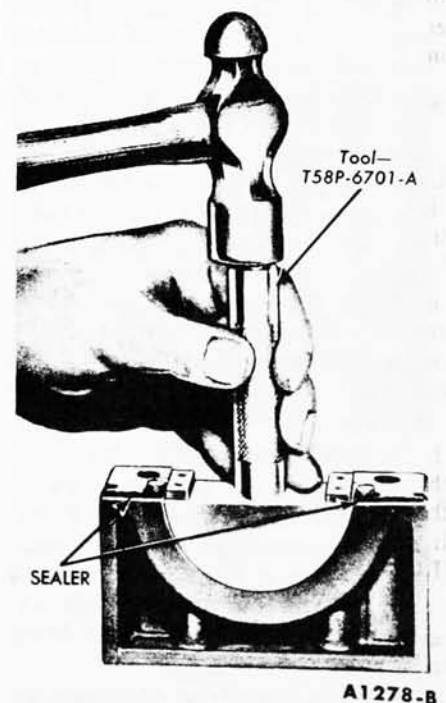

FIG. 65—Seal To Rear Bearing Cap Installation
4. Install a new rear journal oil seal in the rear main bearing cap (Fig. 65). After installation, cut the ends of the seals flush.
5. Apply a thin coating of oil resistant sealer to the rear main bearing cap at the rear of the top mating surface (Fig. 65). Do not apply sealer to the area forward of the side seal groove. Install the rear main bearing cap. Torque the cap bolts to 95-105 ft-lbs.